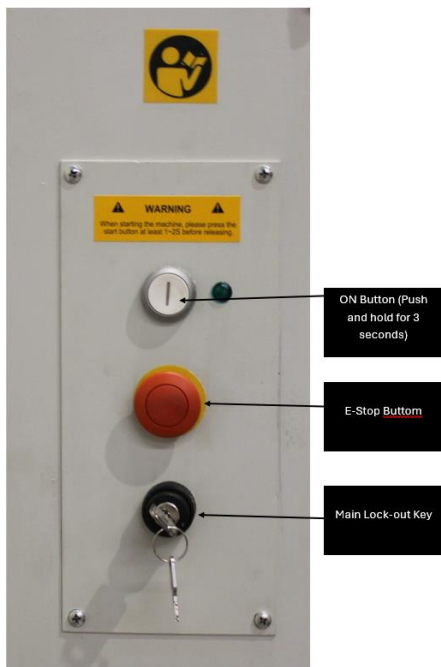

Figure 7: Main Switch box Assembly.
- Turn off the saw Fig. 7 (B).
- Lock out the saw for safety Fig. 7 (A).